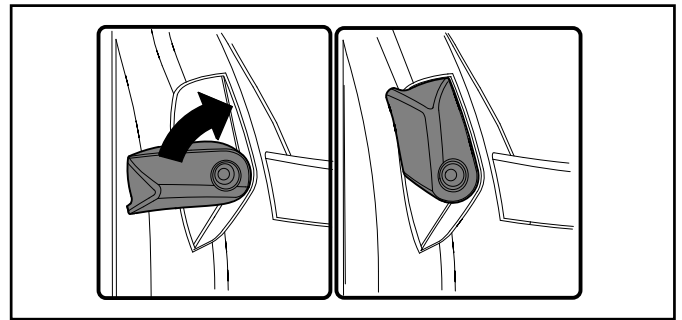

Figure 15 Door Latch Detail
**Step 4:** Rotate latches to secure door as shown in Figure 15.